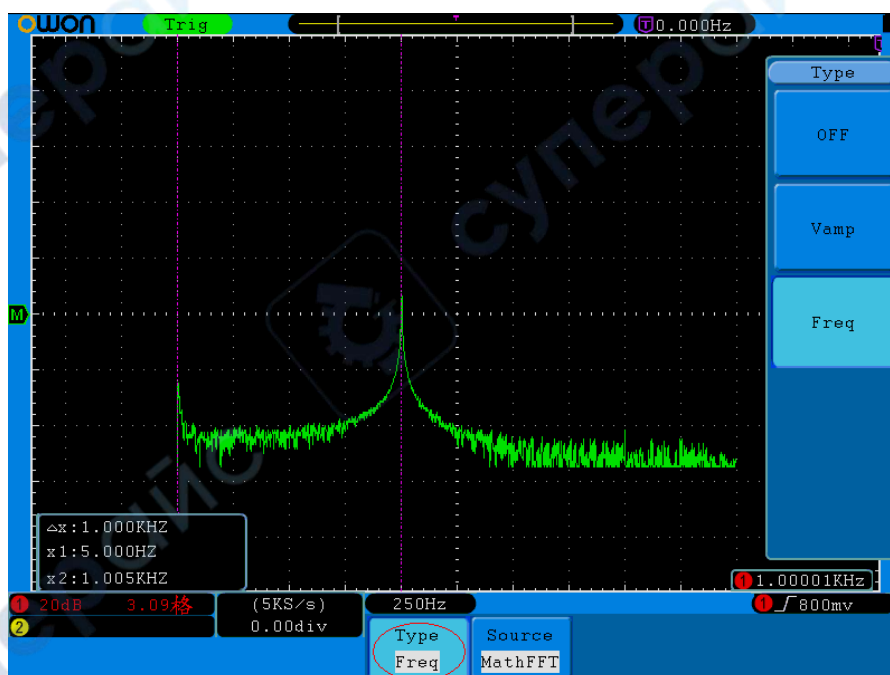

Figure 5-76 Wave of Freq cursor measurement
3. According to the measured waveform, adjust the positions of Cursor1 and Cursor2 by turning the **VERTICAL POSITION** knob of CH1 and CH2. Increment window shows two cursors difference value and the present position (see Figure 5-76).